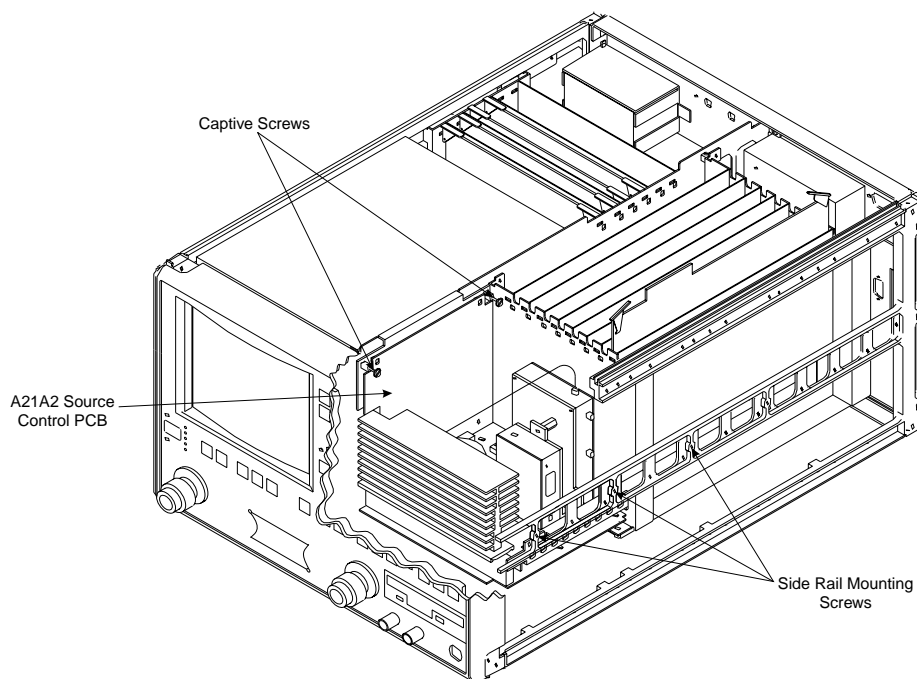

Figure 8-15. *Signal Source Module Removal Details*
- Step 7. Remove the three screws that fasten the Signal Source Module to the chassis side rail. See Figure 8-15.
- Step 8. Loosen the two captive screws that fasten the Signal Source Module to the chassis (Figure 8-15).